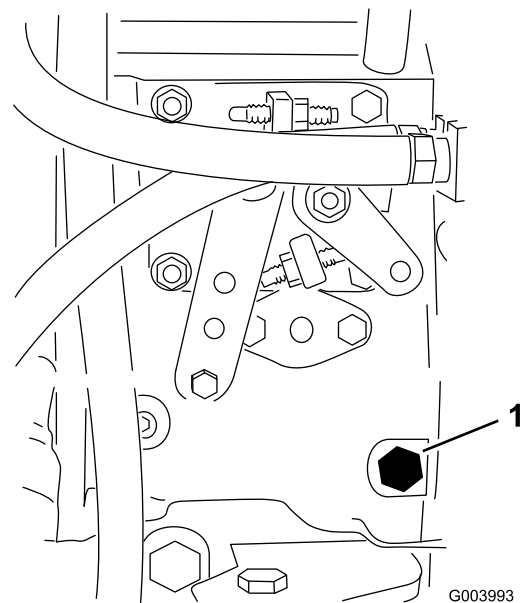

Figure 35
3. Open the air-bleed screw on the fuel-injection pump (Figure 35) with a 12 mm wrench.